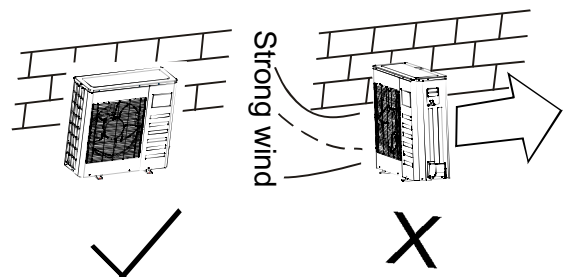

Fig. 6-1
- For installations prone or exposed to strong prevailing winds or breezes such as coastal areas, please ensure that the unit is sited appropriately, by placing it lengthwise along the wall to reduce any negative impact on the condenser fans (Refer Fig. 6-1)